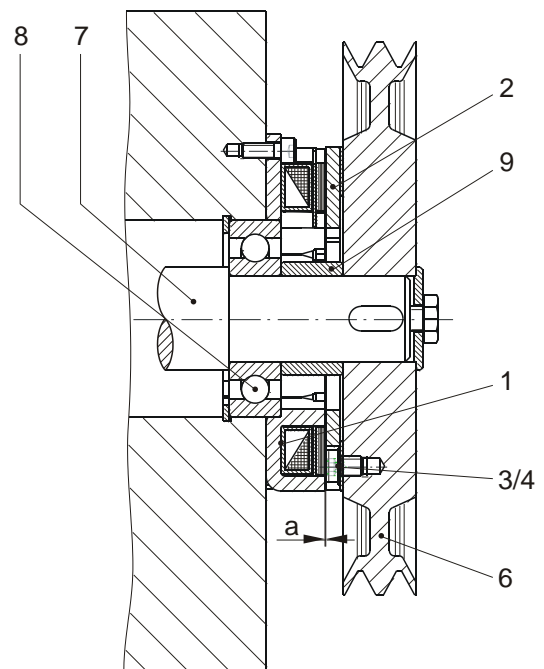
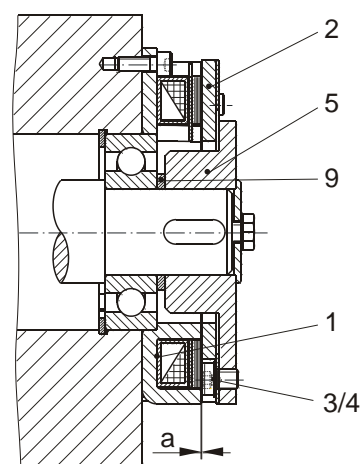

Fig. 2
Fig. 3
The braking torque is transmitted by friction between armature disk (2) and the iron poles and the friction lining surfaces of the coil carrier (1). The coil carrier (1) is screwed onto the machine wall and centered on the shaft bearing, see Figs. 2 and 3 on page 9.
The air gap “a” is defined via a distance ring between the shaft bearing and the drive element (Fig. 2) or inner hub (Fig. 3).
Installation Examples (Figs. 2 and 3)
In operation, the armature disk (2) is attracted to the coil carrier (1). The braking torque is transmitted via frictional locking from the coil carrier (1) via the armature disk (2) with the transmission spring and the V-belt disk (Item 6 / Fig. 2) or the flange hub (Item 5 / Fig. 3) onto the drive shaft (7).
- ➔ Centered by a ball bearing (8), Figs. 2/3.
- 3.1. Adjust the air gap "a" according to Table 1 and Figs. 2/3.
- 3.2. Secure the mounting part or flange hub (5) axially backlash-free.
Axial backlash changes the air gap "a" and can lead to the armature disk (2) rubbing against the coil carrier (1) (see Installation Examples Figs. 2 and 3).